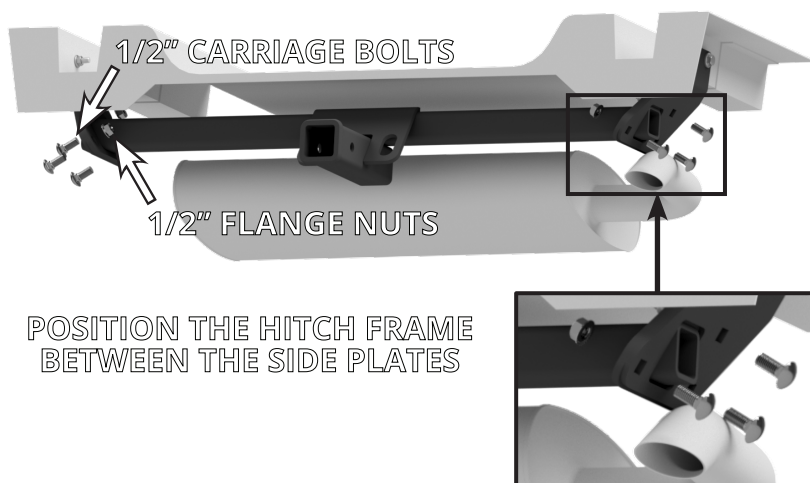

FIGURE B2: HITCH FRAME INSTALLATION
- Retrieve the hitch frame. Raise the frame between the side plates, as shown in Figure B2. Attach the frame to the side plates using six 1/2" x 1-1/4" carriage bolts and 1/2" flange nuts.